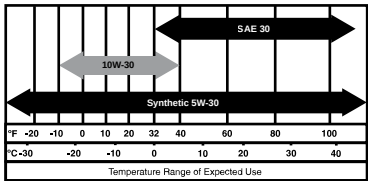

Figure 2-11.
6. See Figure 2-11. Remove dipstick and verify oil level is within safe operating range.